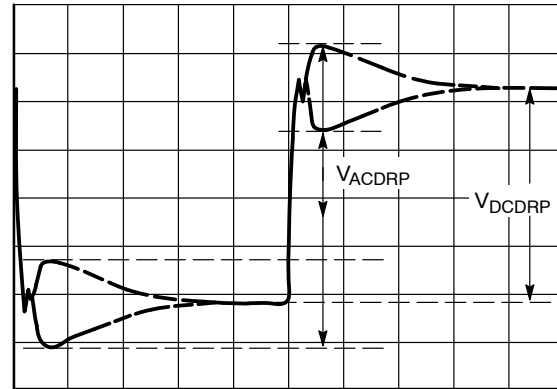

Figure 35. AC Load Line Waveform
5. The resulting waveform will be similar to that shown in Figure 35. Use the horizontal cursors to measure V_{ACDRP} and V_{DCDRP} as shown in Figure 35. Do not measure the undershoot or overshoot that occurs immediately after the step.